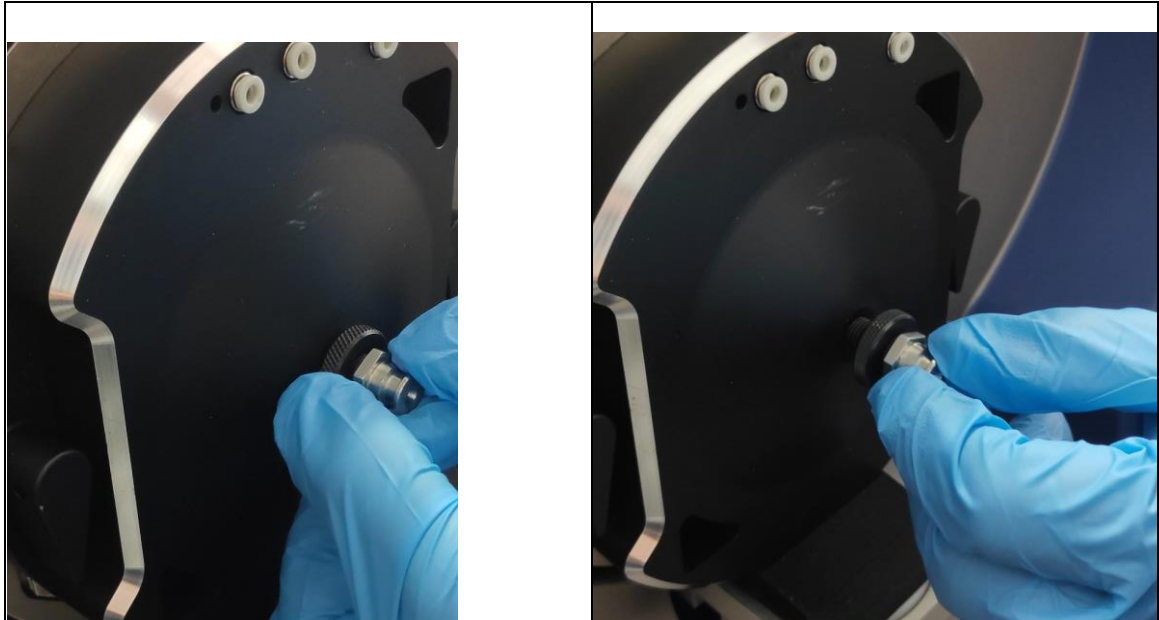
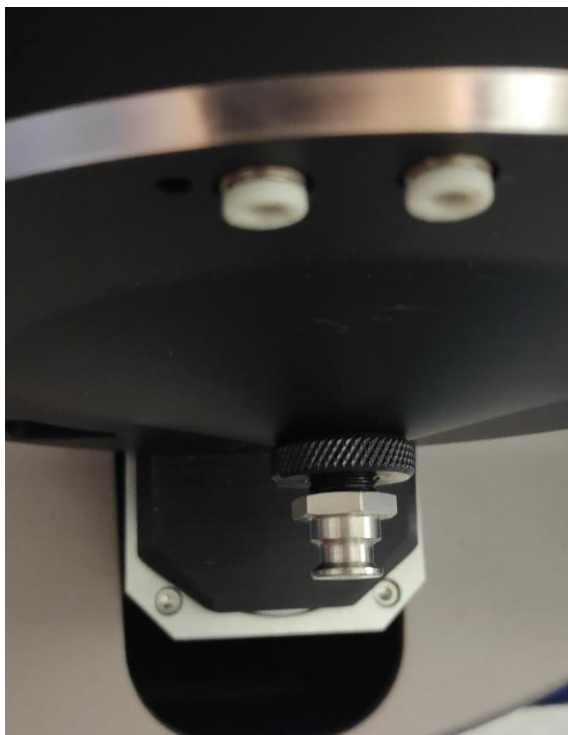

Figure 6: Installation and adjustment of the ion source adapter assembly.
Figure 7: Ion source adapter assembly after correct installation.
- Screw in the adapter assembly until you feel the o-ring is getting in contact with the orifice plate (see Figure 6)
- Fix the position of ion source adapter by the fixing nut (see Figure 6, Figure 7)